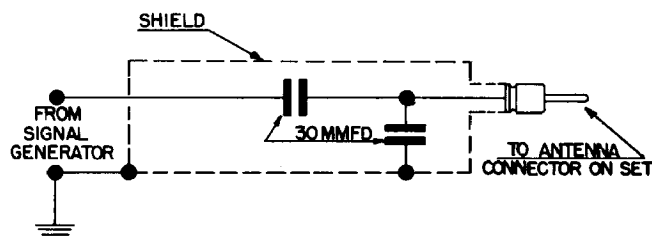

Fig. 12. Dummy Antenna
1. Connect signal generator leads through dummy illustrated in Fig. 12 to antenna lead in socket on receiver.
Fig. 12—Schematic of a recommended dummy antenna, closely resembling actual antenna capacity, to be used in series with signal generator leads when aligning the R.F. section of the receiver.
3. Connect signal generator leads through dummy illustrated in Figure 12 to antenna receptacle on the receiver.